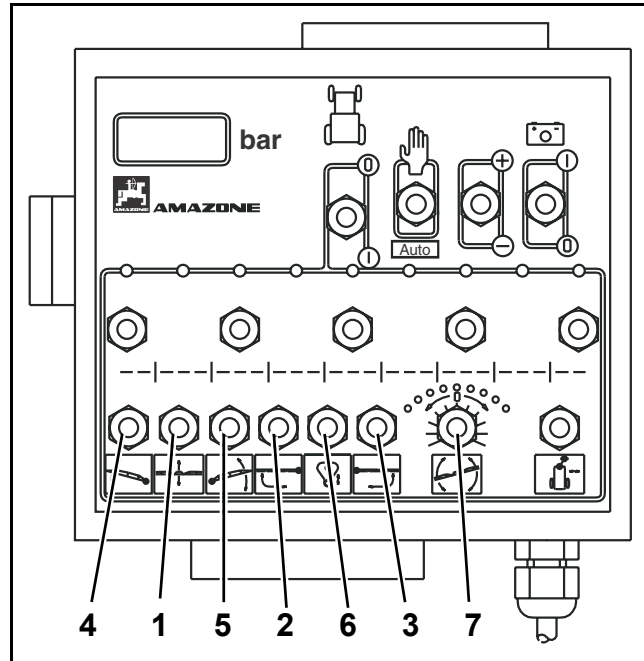
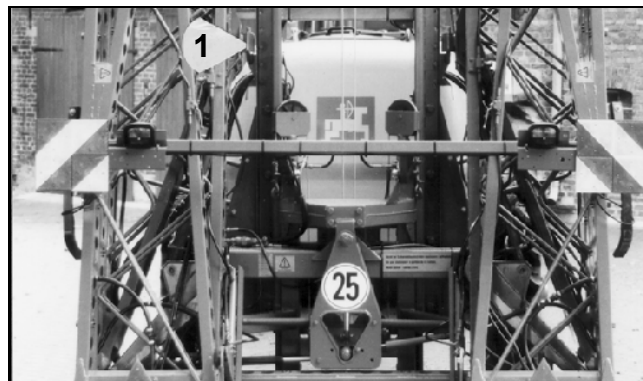

Fig. 111
Fig. 113
- Keep one of the keys (Fig. 111/2 or Fig. 111/3) in position "folding in" until the individual segments have completely been folded in and both boom packs have been folded upwards.
- Keep the keys (Fig. 111/4 and Fig. 111/5) in position "tip angling" until both boom packs have been folded upwards.
- Lower the boom completely via the height adjustment key (Fig. 111/1) until the transport latches pick up on the sockets (Fig. 113).
- If the transport latches do not pick up on the sockets (Fig. 113/1), align the booms in a parallel position to the sprayer frame with the key (Fig. 111/7) for the tilting device.